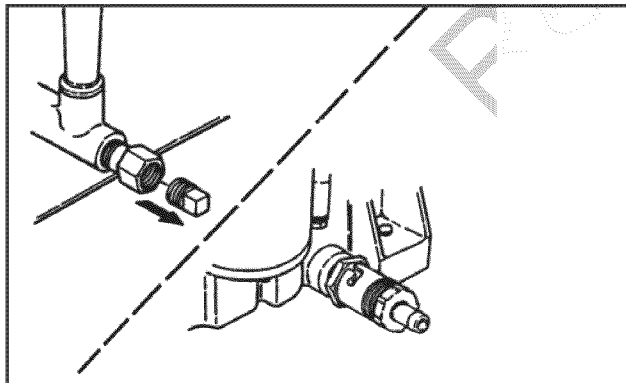

FIGURE 16
4. Place an appropriate container under the oil drain (Figure 16). Remove or open the oil drain plug and allow oil to drain completely.